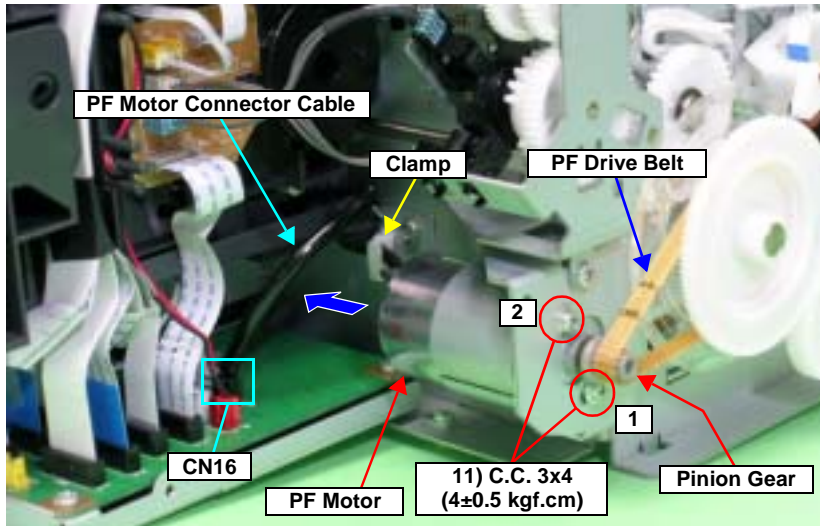

Figure 4-133. Removing the PF Motor
- Tighten the screws in the order shown in Figure 4-133.